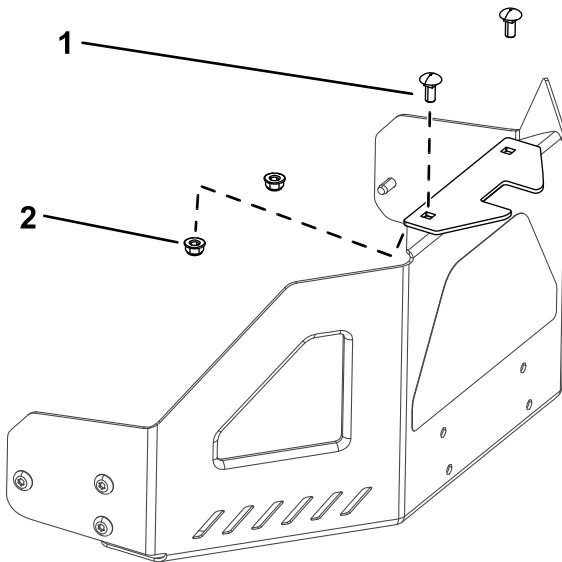

Figure 7
1. Install the stabilizer bracket to the engine guard using 2 carriage bolts (5/16 x 3/4 inch) and 2 locknuts (5/16 inch) (Figure 7).